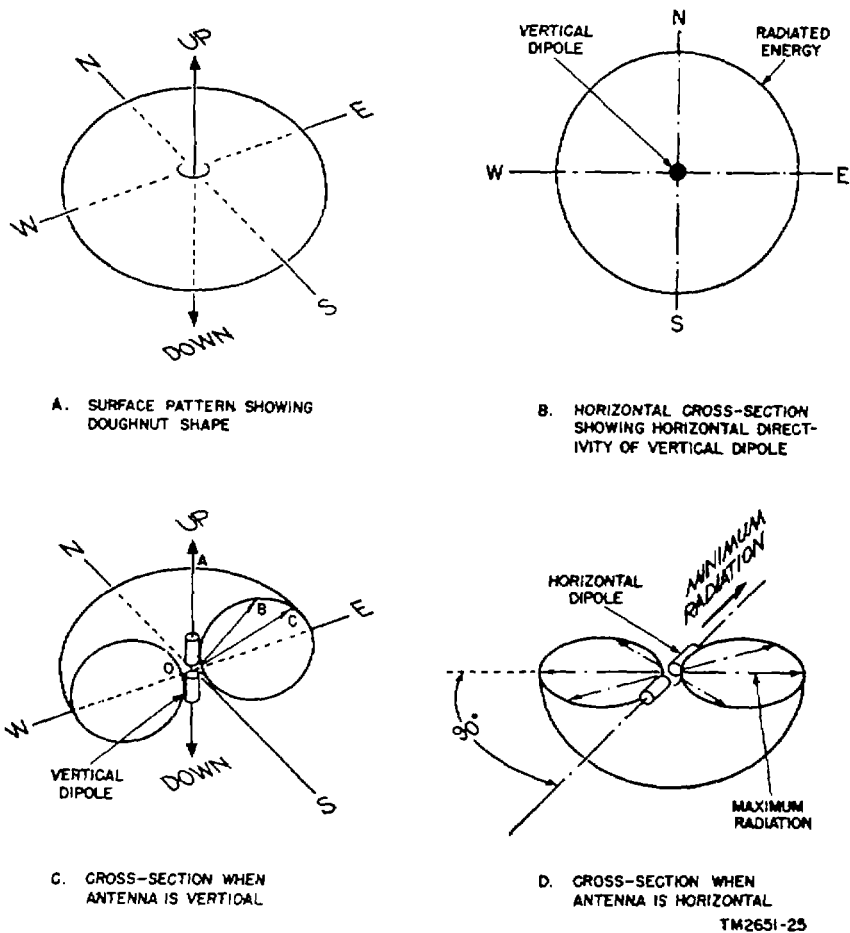

Figure 32. Radiation pattern of a half-wave antenna.
d. *Directive Patterns* (fig. 32).
- (1) *General.* Maximum radiation occurs at the center of a half-wave antenna, because the current is greatest at that point. Little radiation takes place at the ends because the current is minimum there. Ideally, the radiation is at right angles to the plane of the antenna wire
and completely encircles the conductor. The resulting antenna pattern, therefore, can be compared to a doughnut with the radiator passing through its center (A, fig. 32).